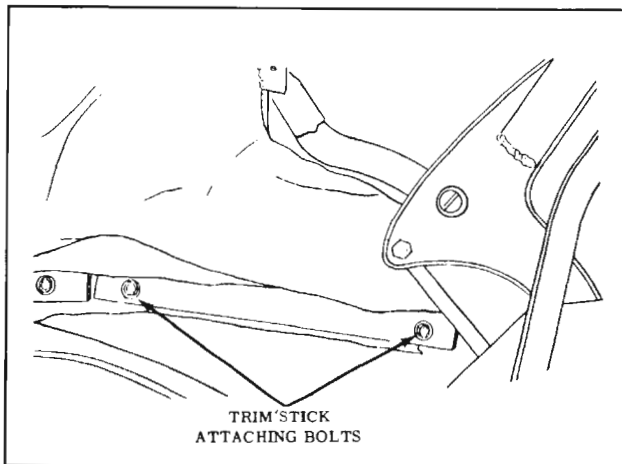

Fig. 16-113 Rear Quarter Trim Stick
8. At each rear quarter area remove attaching bolts securing rear quarter trim stick assembly to rear quarter inner panel. (Fig. 16-113)